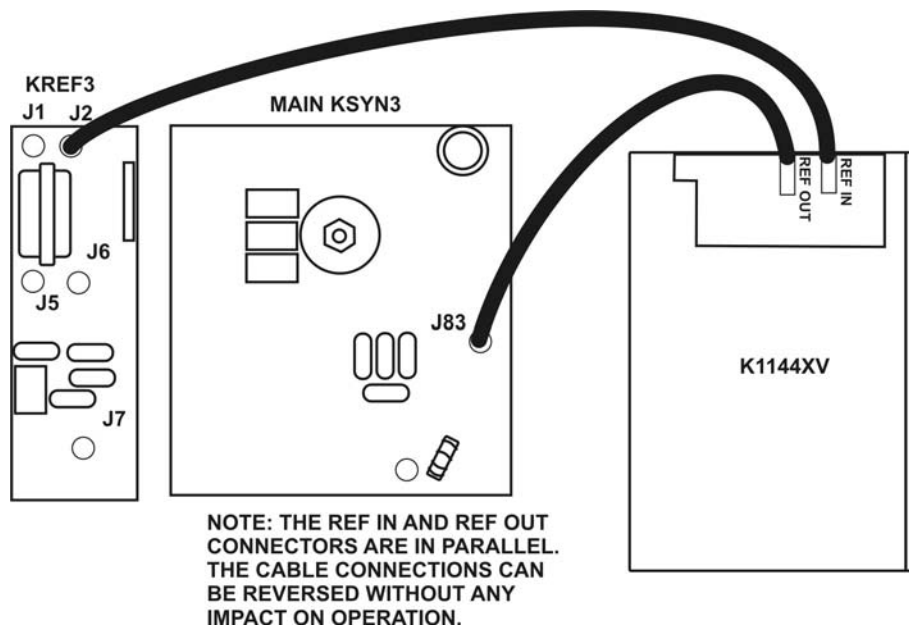
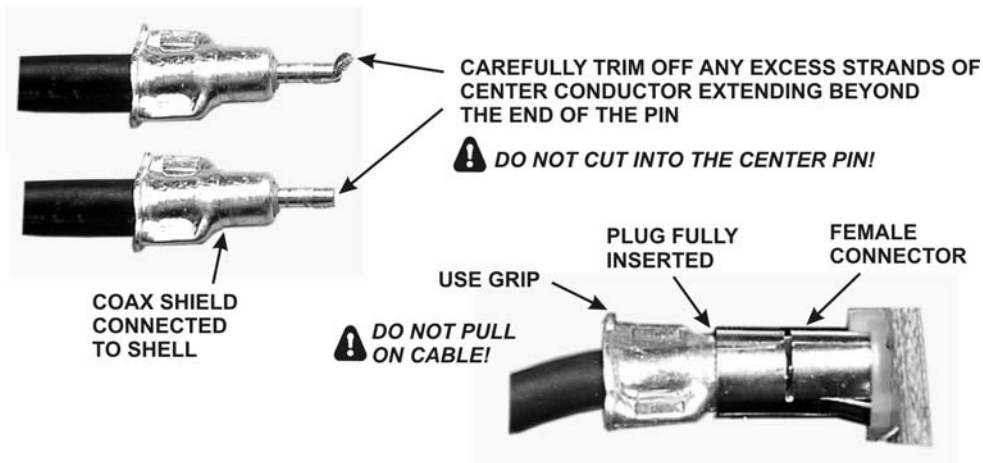

Figure 4. TMP Cable Connections.
Figure 5. TMP Cable Connectors.
□ Connect the TMP cables as shown in Figure 4. The TMP cables are simple friction-fit connectors but must be properly aligned when inserted (see Figure 5). Disconnect the TMP cable from J2 on the KREF3 board and plug it into the REF OUT TMP connector on the Phase Lock board. Handle the cable carefully to avoid unplugging it from J83 KSYN3 board below the K144XV module. It's a good idea to put on finger on the cable at J83 to keep it in place while moving the cable. If it does come loose, use a pair of needle nose pliers or heavy-duty tweezers to replace it, gripping the connector by the metal part, or temporarily loosen the K144XV module so it can be moved as described in Note 1 below to reach the connector with your fingers.